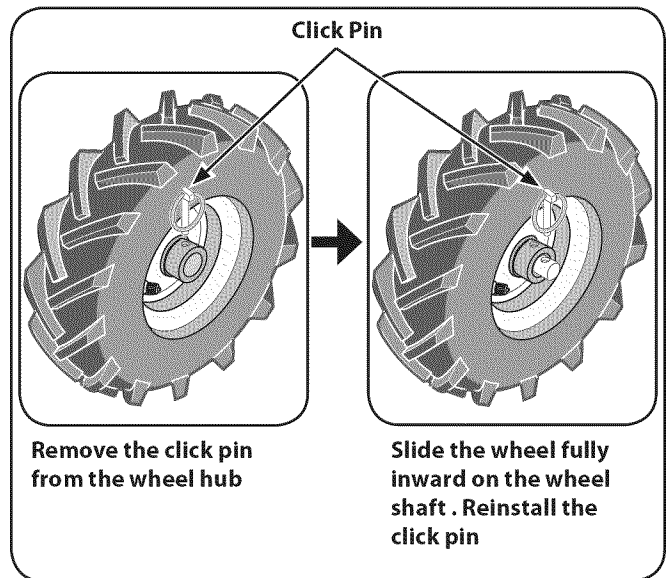

Figure 3-4
- Place a sturdy block under the transmission to raise one wheel about 1" off the ground. Remove the click pin from the wheel hub and wheel shaft. See Fig. 3-4.
- Slide the wheel fully inward on the wheel shaft. Reinstall the click pin through the wheel shaft only (not through the wheel hub). See Fig. 3-4. The wheel should now spin freely (freewheel) on the wheel shaft. Repeat with the other wheel.